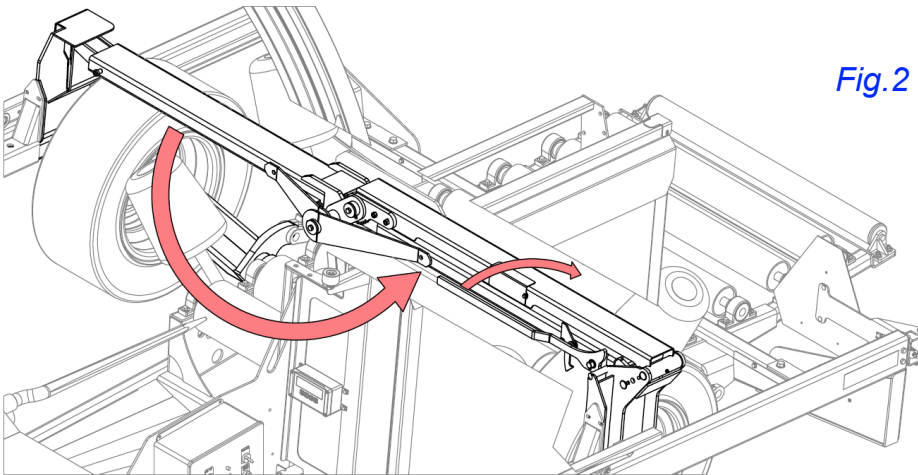

Fig.2
4. Raise dispatch arm to folded position with handle and lock latch if starting a new row. See Fig. 2.